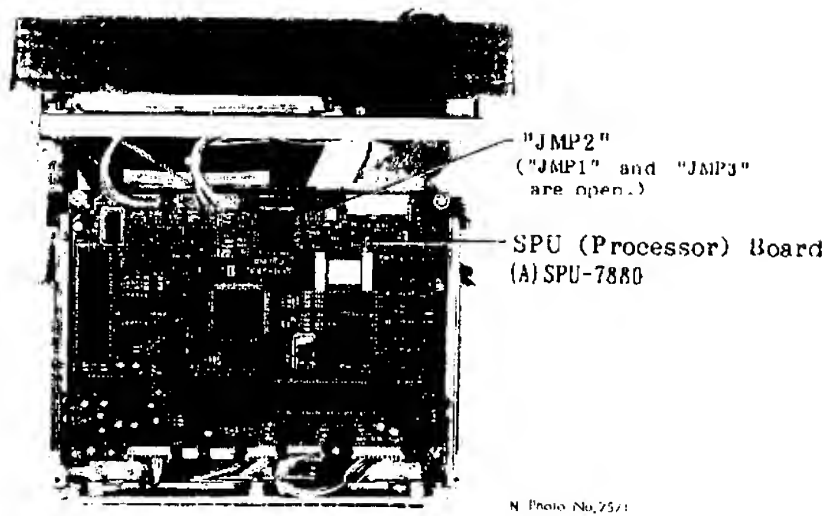

Fig.52 Display Unit Bottom View
3. Once turn off the radar system and pull out jumper JMP2 on the SPU-7880 processor board. Operate the radar for transmission on 0.25nm range. See Fig.52.